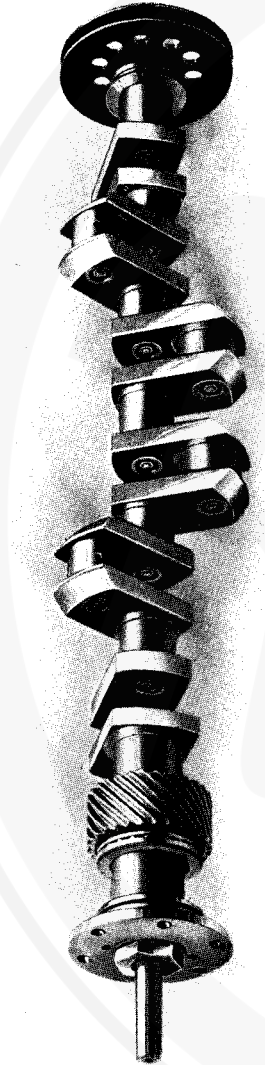

Fig. 6. 21-h.p. Crankshaft.
*The Crankshaft* Fig. 6 (overleaf) is of exceptionally robust design, its six throws being supported by a bearing between each pair. There are eight bearings in all, the main bearing nearest the flywheel being divided to accommodate the cam transmission worm which runs in an oil bath. The crank is of hollow formation, the shaft and crank pins being bored to effect a saving in weight; suitable oil conduits are drilled for the distribution of oil which is pressure fed. The main bearings are of special anti-friction metal.